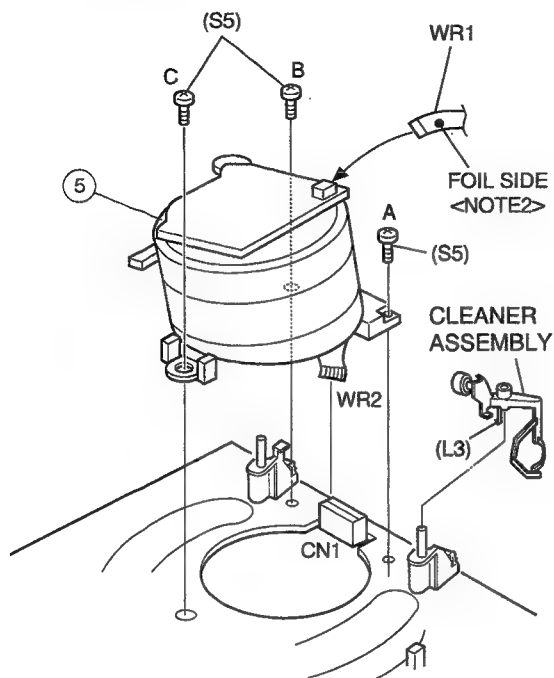
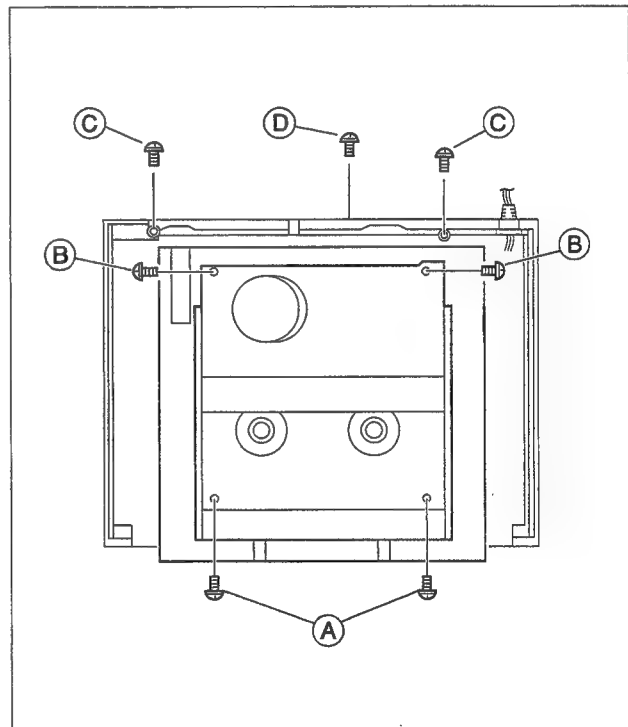

Fig. D5
Fig. 1-4-1
- (1) Remove the Top cover, Bracket and Front panel assembly. (See 1.3 DISASSEMBLY/ASSEMBLY METHOD. Take care not to pull the drum wire (Fig.D5) from CN1).
- (2) Lower the cassette holder, and make the preparations required in order to remove the screws from the Main deck assembly (Refer to the "Procedures for Lowering the Cassette holder assembly" on pages 1-3 of 1.3 DISASSEMBLY/ASSEMBLY METHOD).
- (3) Take out 2 screws (A) and 2 screws (B) as shown in Fig. 1-4-1.
- (4) Remove the flat wires from CN7162 and CN3005 on the Main board assembly.
- (5) Take out 2 screws (C) and take out 1 screw (D) to install the Bottom cover (See Fig. 1-4-1).